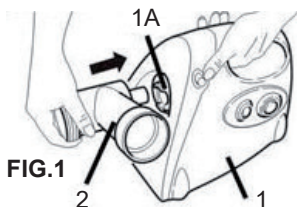

FIG.1
Position the feed channel (2) in the appropriate coupling (1A) on the motor base unit (fig. 1).